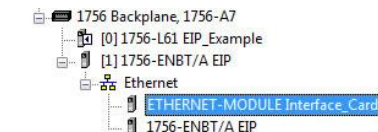

Figure 28: Online Module Status
- 22) Switch to online mode and download the project to the PLC. Verify that the newly-added inverter is available and operating correctly by observing any indications shown on the inverter's icon. When the inverter's icon is selected, its status and any available error messages will be displayed in the area below the project tree. Refer to Figure 28. Also confirm that the interface card's "Network Status" LED should be solid green, indicating an "online/connected" state.